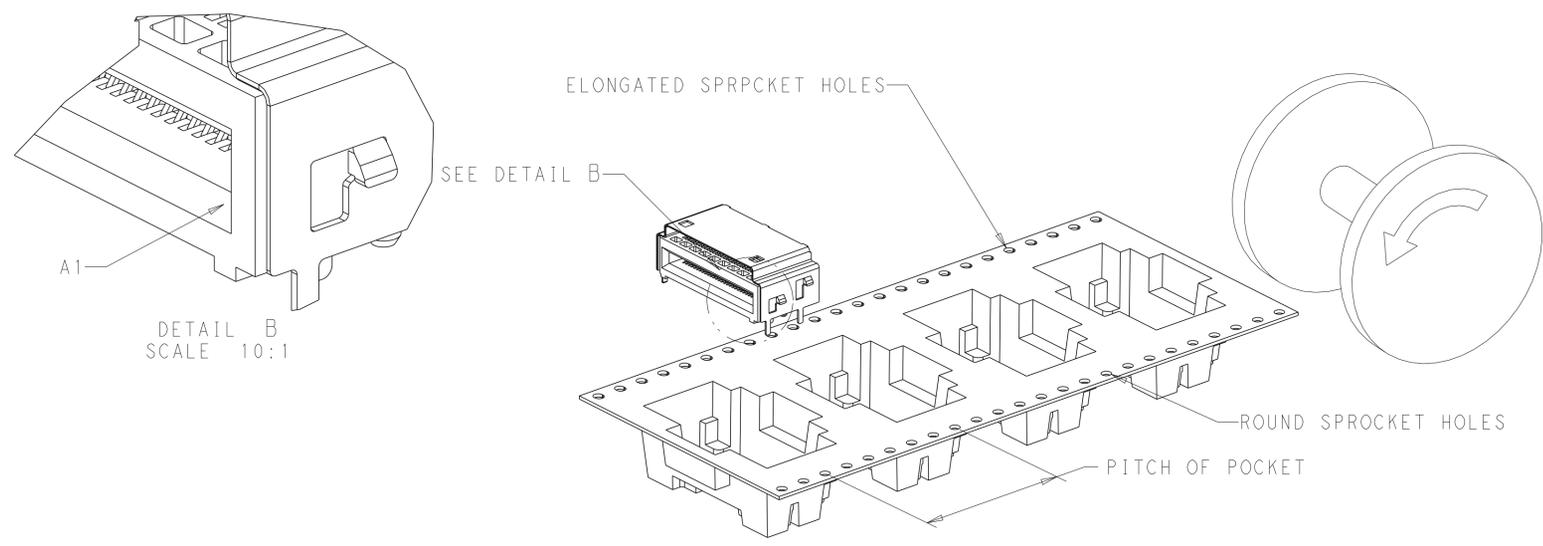

FIGURE 2
- △ TAPE AND REEL PACKAGED FOR PICK AND PLACE SURFACE MOUNT PROCESSING, SEE FIGURE 1 AND FIGURE 2. POCKET TAPE: WIDTH = 44.